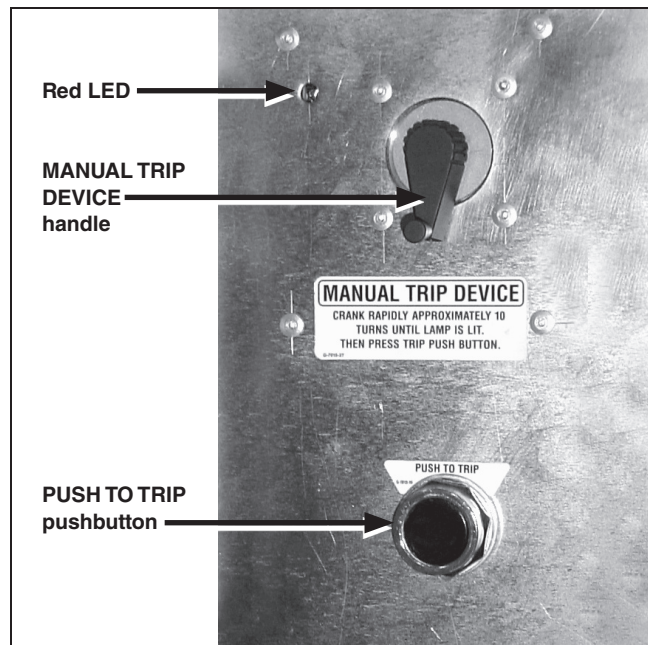

Figure 19. Operating the manual-trip device.
- (b) Press the manual PUSH TO TRIP pushbutton located underneath the MANUAL TRIP DEVICE handle for about one second. The manual trip device only retains its charge for about five minutes, so press the pushbutton promptly. See Figure 19.